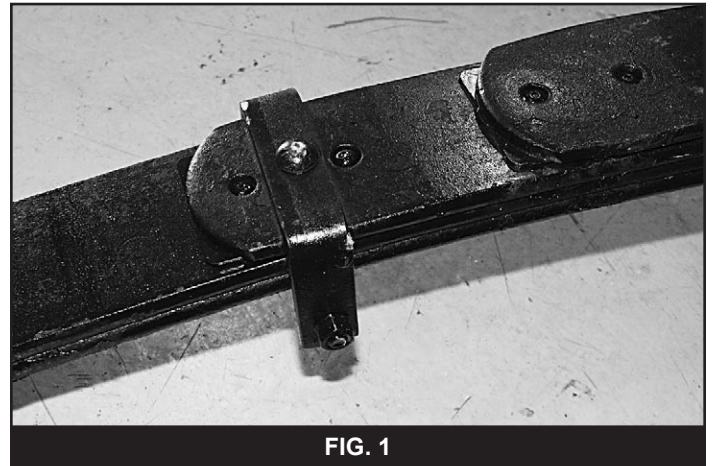

FIG. 1
13. Place new add-a-leaf into pack so that the pack resembles a pyramid with the longest leaf at the top. There may be interference from the OE Hendricks clamps or from the spring clamp on the add-a-leaf. (Fig. 1)